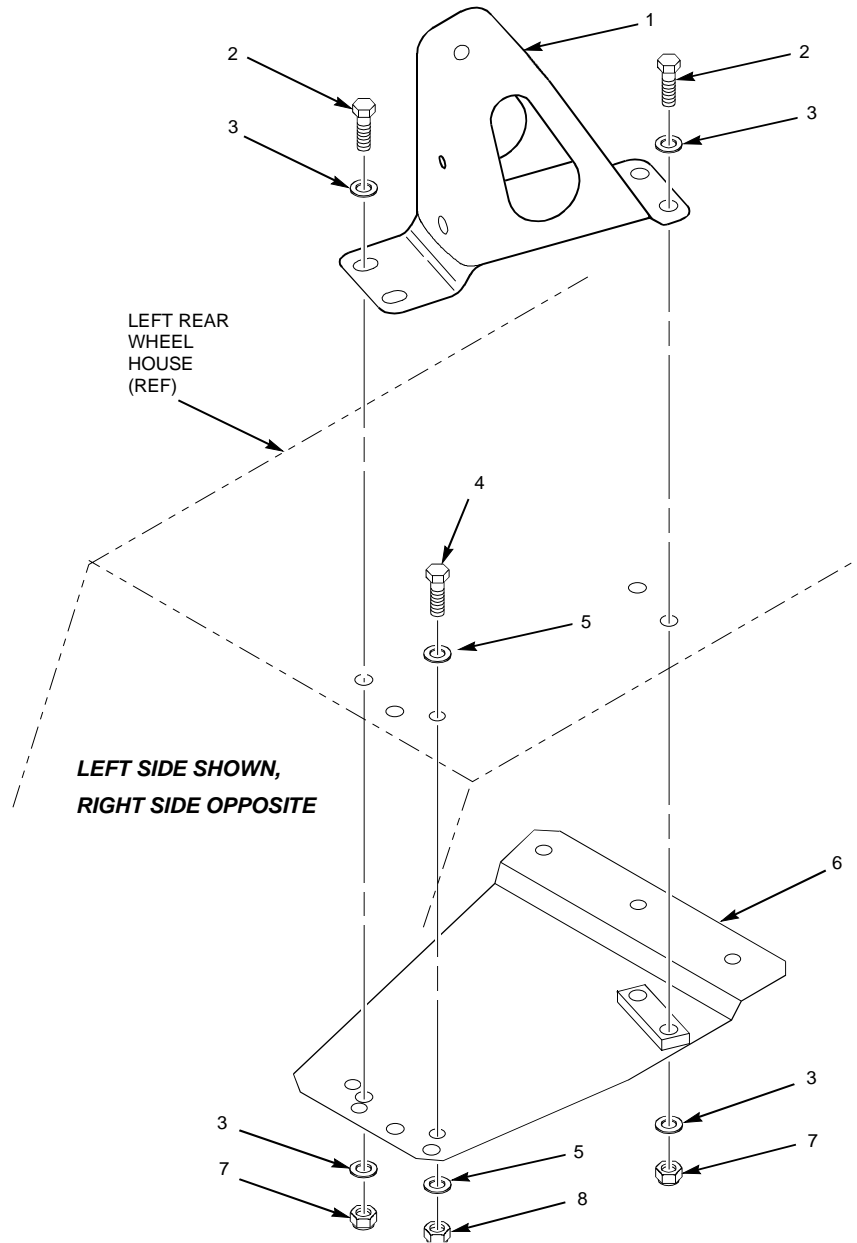

Figure 2-16. Support Plates Removal (4 Door Only)
5. Remove support plates as follows (see figure 2-16).
- a. Remove capscrew (4), two washers (5), and locknut (8). Discard locknut (8).
- b. Remove four capscrews (2), eight washers (3), and four locknuts (7) securing retractor mounting bracket (1) and C-partition support mount (6). Remove C-partition support mount (6). Discard four locknuts (7).